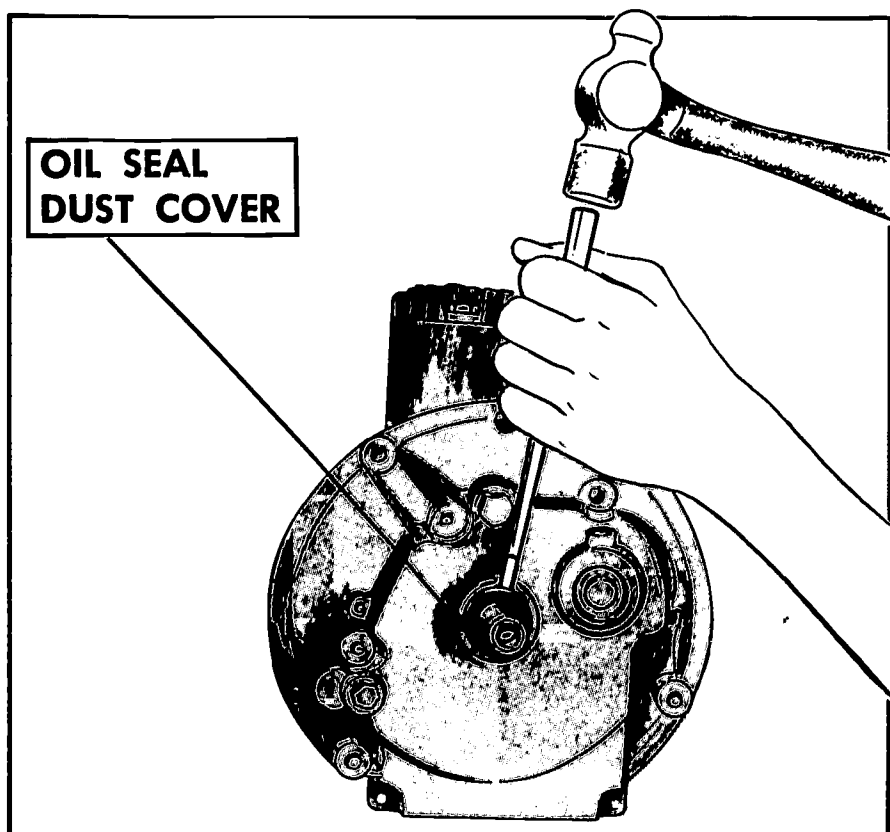

FIGURE 298. Removing the oil-seal dust cover.
2. *Remove the dust cover if one is installed (Figure 298).*